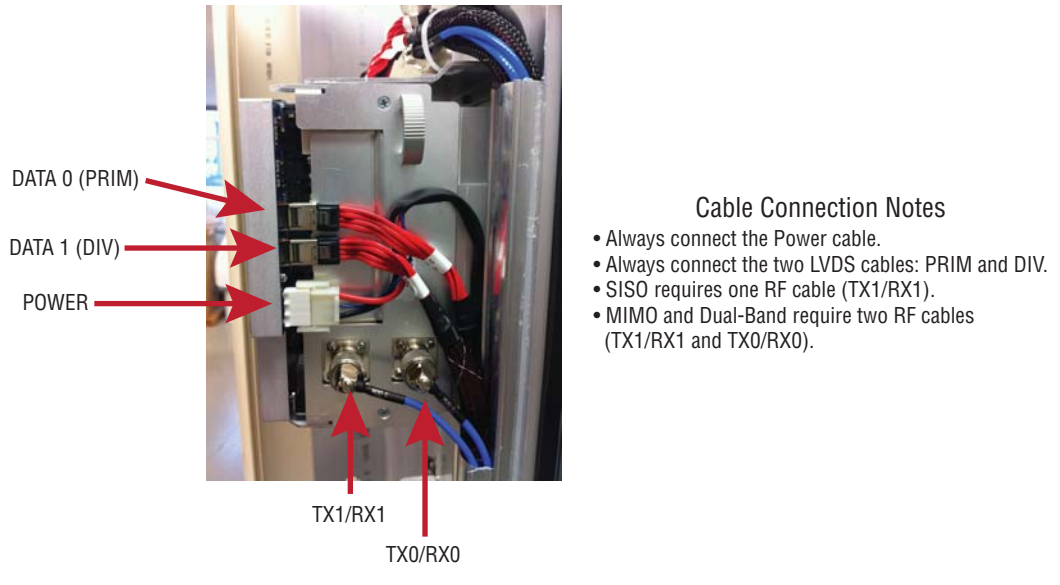

Figure 22. Cable Connections for HDM RF Modules
- HDM RF Module: Figure 22 on page 38